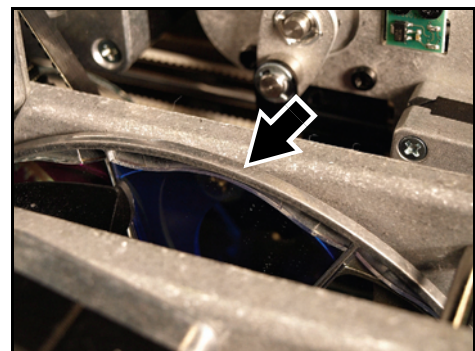

Figure 23: Color filter installation
6. Slide the filter into its clip in the center of the color wheel. See Figure 23. Make sure that the outer edge of the filter engages under the lip (arrowed) on the edge of the color wheel so that the filter is held securely.